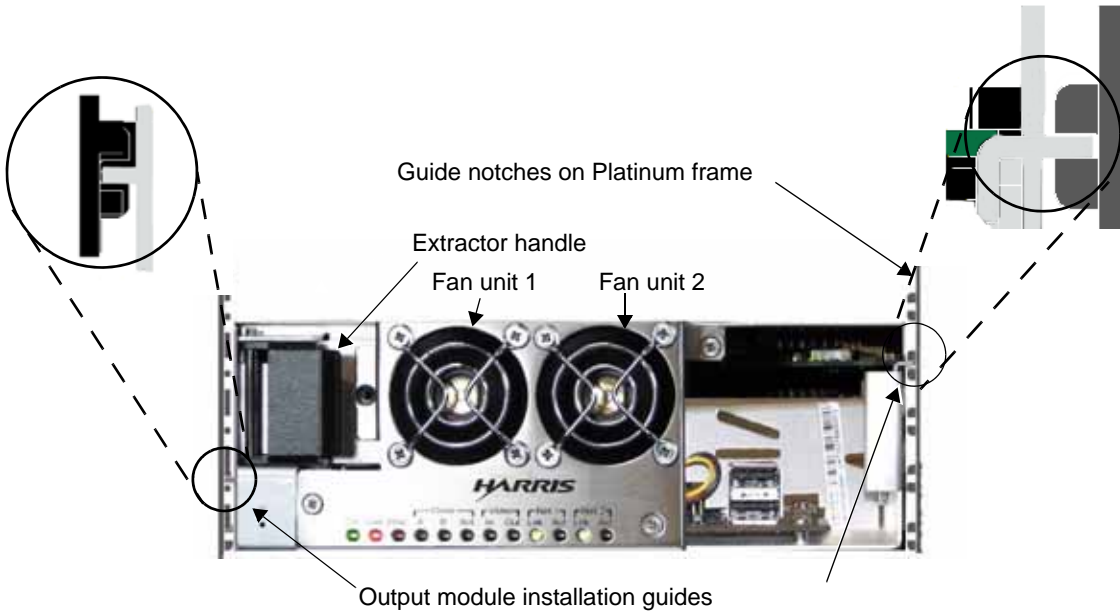

Figure 3-2. Installing the Output Module
3. Align the installation guides on the left and right sides of the back module with the guide notches of the appropriate slots in the Platinum frame (see Figure 3-2).